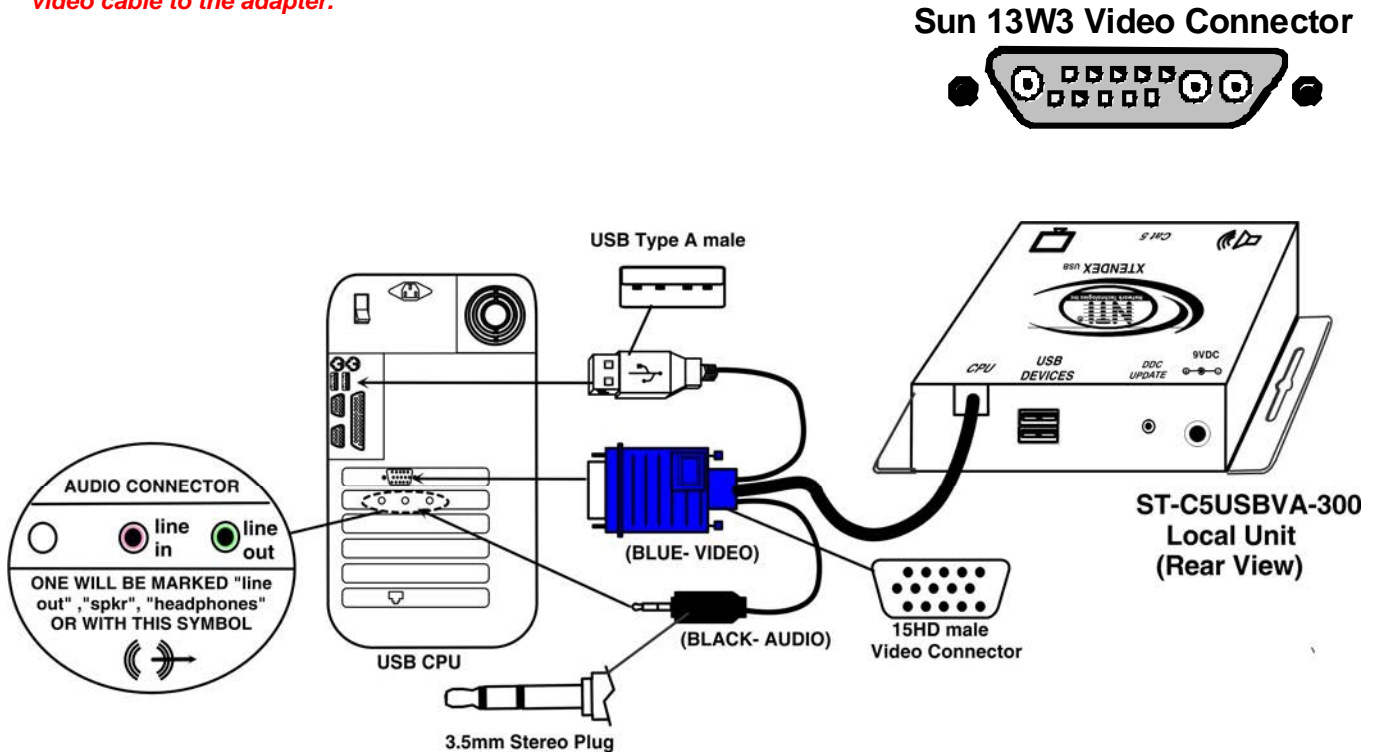

Figure 1- Connect the Local Unit to a CPU
1. Plug the cables of the Local Unit into the back of the CPU. (See Figure 1.)